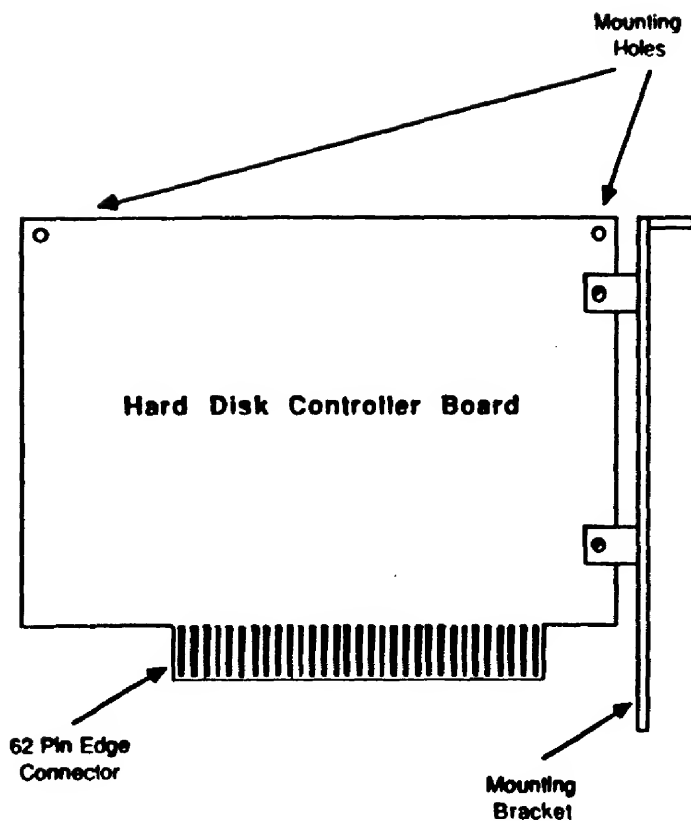
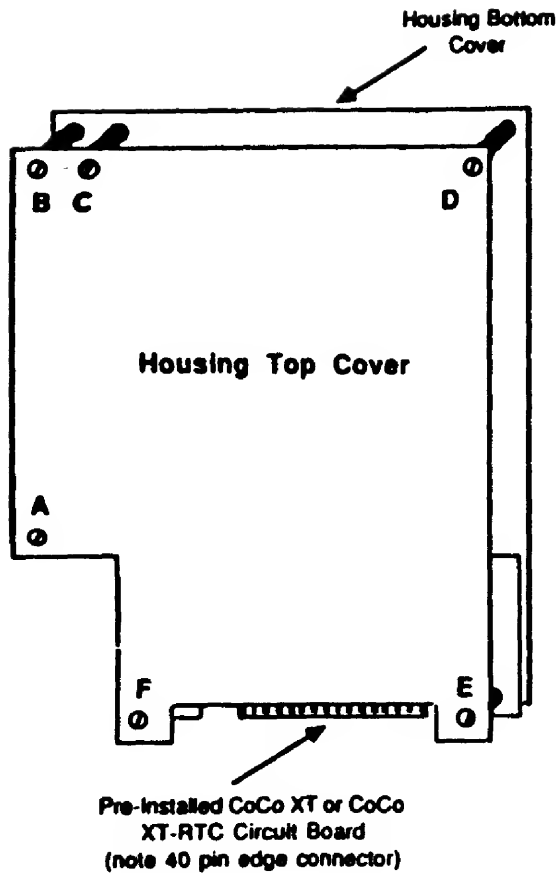

Figure 2.1 Typical Outline of Hard Disk Controller Board
Figure 2.2 Front View of CoCo XT Housing
Figure 2.1 shows an outline drawing of a typical hard disk controller board. The board dimensions are different for each
- 1) Position the housing as shown in Figure 2.2. The 40 pin edge connector should be at bottom right.
- 2) Using the 1/16" allen wrench, remove the screws marked A, B, C, D, E, and F in Figure 2.2. Save these screws for use when replacing the top cover.
6) Release your grip on the CoCo XT board and the hard disk controller. The mounting holes (Figure 2.1) on the hard disk controller should align with the mounting posts which secure the spacers at positions C and D (Figure 2.2).